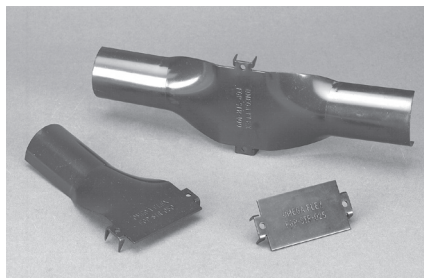

Figure 2-4
- C. **Protection Devices:** For use where flexible piping passes through studs, joists, and other building materials and is restricted from moving to avoid nails, screws, and other puncture threats. There are five striker plate configurations made from stamped steel and specially hardened to resist penetration from screws and pneumatic nail guns. These are a quarter-striker, half-striker, three-quarter striker, full-striker, and 6-inch x 17-inch flat plate striker. Spiral wound galvanized steel “floppy” conduit is available for additional protection (Figure 2-4).